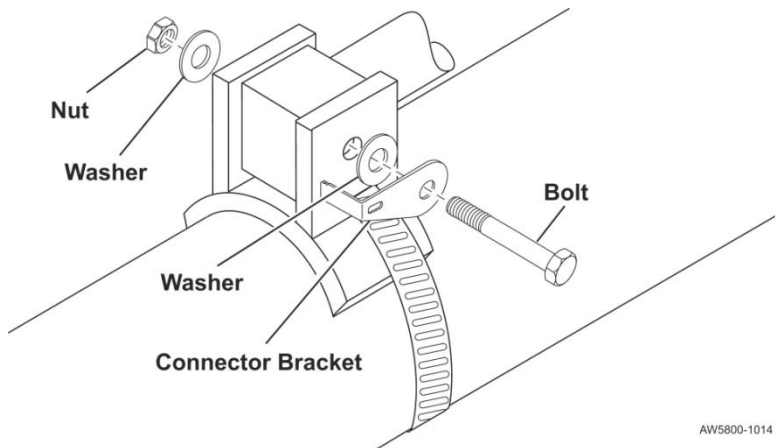

Figure 32. Inserting Connector Assembly Bracket Tab
- H. Place the connector assembly bracket tab (P/N 110-0080-000) on the second bolt followed by a washer. Ensure the tongue and tab extends around the end of the sensor. See Figure 32.